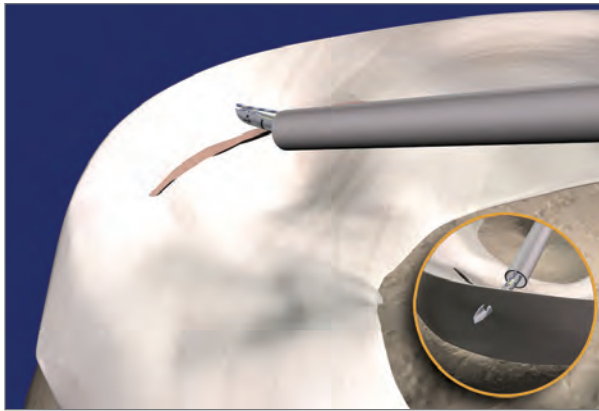
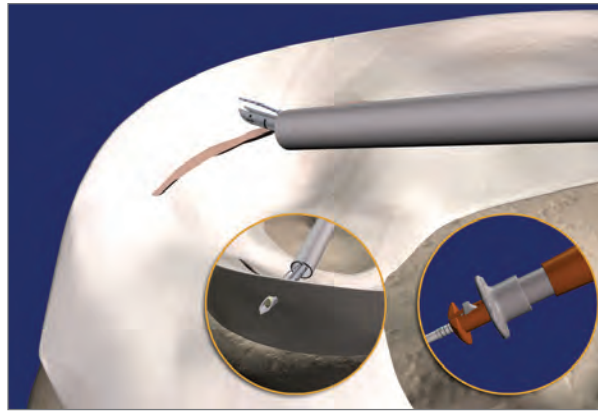
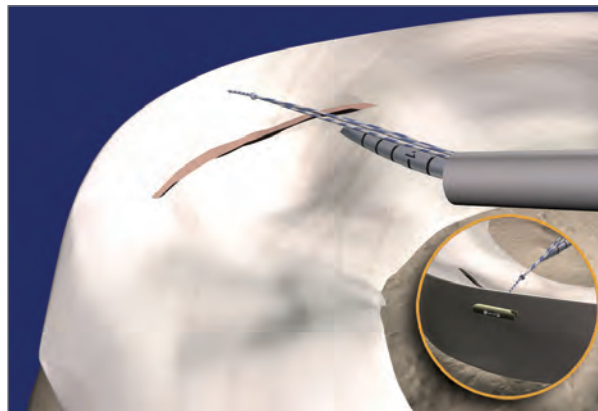

Figure 7. Insert the delivery needle into the meniscus through the capsule.
Figure 8. Keep the delivery needle in position during deployment of the implants.
Figure 10. Withdraw the delivery needle from the meniscus slowly for better suture management.
3. For a vertical mattress suture repair, place the first implant (T1) on the capsular side of the tear. Insert the FAST-FIX[®] 360 delivery needle into the capsule or into any remaining meniscal tissue on the capsular side of the tear (**Figure 7**). Use the slotted cannula to stabilize the meniscus, enhance visualization, and minimize skiving of the delivery needle to ensure more accurate placement of the implants. Position the tip of the slotted cannula at the desired entry point and rotate the cannula away from the direction of the neurovascular structures. Rotating the cannula allows better visualization of the delivery needle tip and directs the needle away from the neurovascular structures. Keeping the delivery needle in position, push the deployment slider all the way forward to deploy T1 (**Figures 8 and 9**). Proper deployment of the implant is accompanied by a “clicking” sound. For better suture management and to prevent pulling out the second implant (T2), release the deployment slider and slowly withdraw the needle out of the meniscus, keeping the needle inside the slotted cannula (if desired) and within arthroscopic view (**Figure 10**).